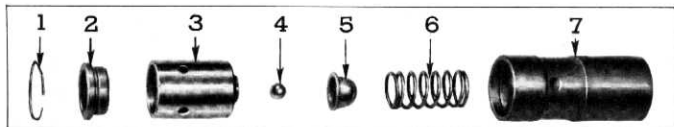

Fig. 10—Valve Lifter—Exploded View
- Remove push rod seat, plunger, ball check valve, ball retainer and spring. Figure 10 shows layout of parts.